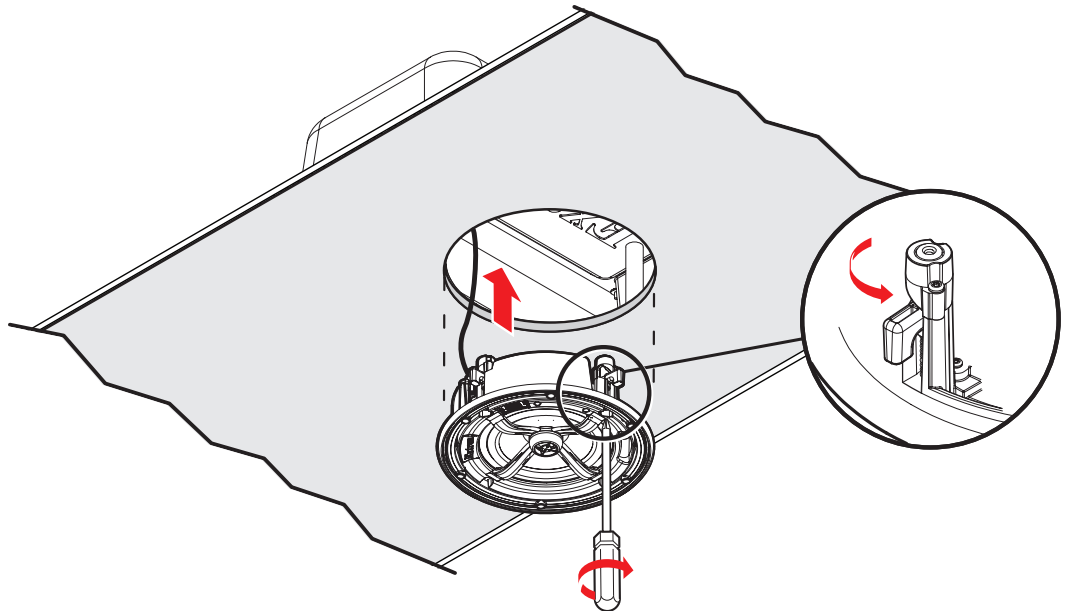

Figure 20. Mounting the Speaker to the CS 120P
19. Mount the CS 26T (see figure 20).